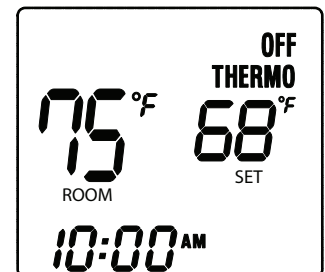

Fig. 6 Thermo Mode
Step 2: Press the MODE button a second time to put the to put the system in **THERMO** mode (Fig. 6).